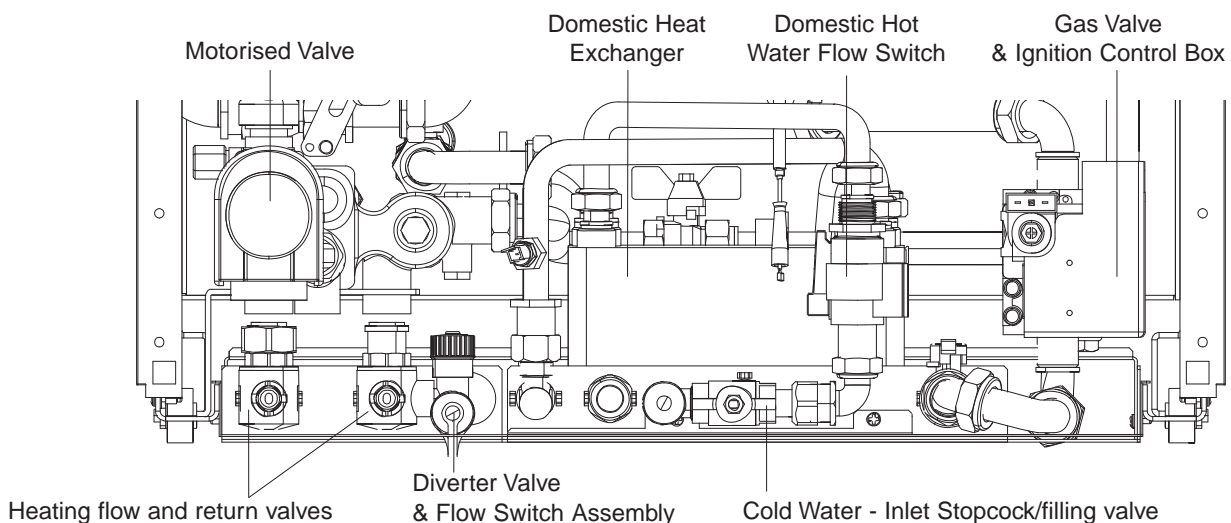

Fig. 36
8.15.3 Close heating flow and return valves (fig.36), by turning ~ turn until indicating lines are horizontal. Pull lever on head of safety valve to drain primary circuit to boiler.
Refer to fig. 36
Refer to figs. 36 & 38
- 8.19.6 Close heating flow and return valves (fig. 36) by turning ~ turn until indicating lines are horizontal. Pull lever on head of safety valve to drain primary circuit to boiler.
- 8.20.5 Close heating flow and return valves (fig. 36) by turning ~ turn until indicating lines are horizontal. Pull lever on head of safety valve to drain primary circuit to boiler.
- 8.22.3 Close heating flow and return valves (fig. 36) by turning ~ turn until indicating lines are horizontal. Pull lever on head of safety valve to drain primary circuit to boiler.